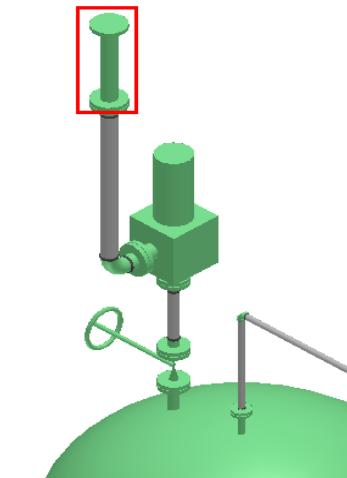

Figure 40: Specialty Item: Silencer
- Click **Finish** on the **Insert Component** ribbon to accept the placement of the silencer and right-click in the graphic view to terminate the command. The silencer will resemble Figure 40.